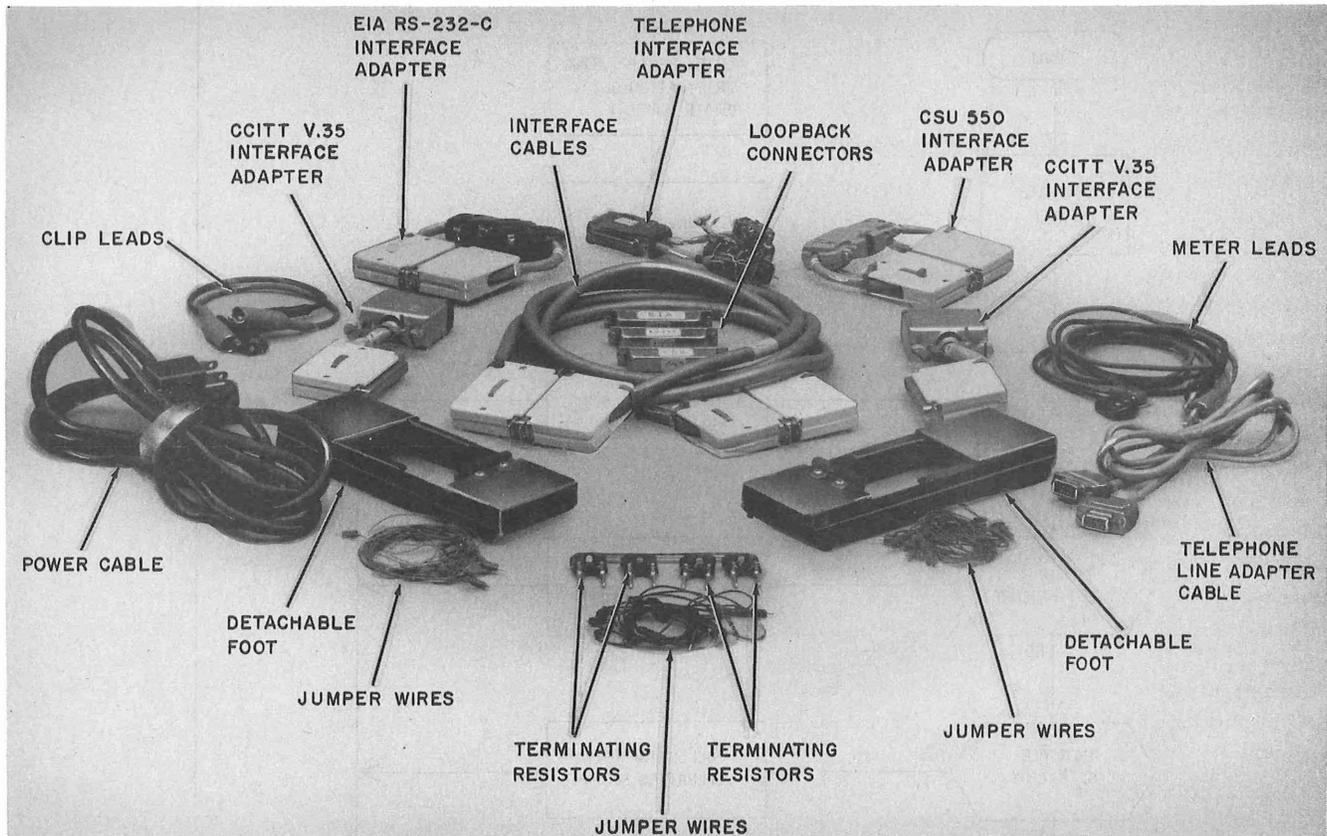

Fig. 1—921A DTS Accessories
1.03 In order to use the troubleshooting procedures given in this section, a complete set of spare circuit packs is required. A list of these circuit packs and their functions appears in Table A. Included in the table are the accessories stored in the DTS cover or cable accessory case ("saddle bag") which are also shown in Fig. 1. The chassis, power supply, display, light emitting diodes (LEDs), and other parts of the DTS which are not part of the plug-in CPs are not repairable in the field. If the trouble cannot be cleared by replacement of CPs, then the DTS must be returned to a Western Electric repair center.